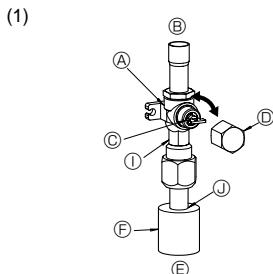
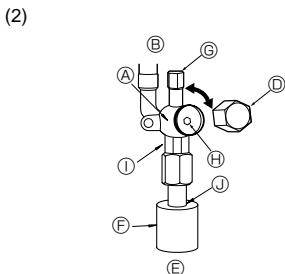

Fig. 4-6
Fig. 4-7
- (1) Gas side of RP100-250 (Fig. 4-6)
- ① Remove the cap, pull the handle toward you and rotate 1/4 turn in a counter-clockwise direction to open.
- ② Make sure that the stop valve is open completely, push in the handle and rotate the cap back to its original position.
- (2) Liquid side of RP100-250 and Gas/Liquid side of RP35-71 (Fig. 4-7)
- ① Remove the cap and turn the valve rod counterclockwise as far as it will go with the use of a 4 mm hexagonal wrench. Stop turning when it hits the stopper. (ø9.52: Approximately 10 revolutions)